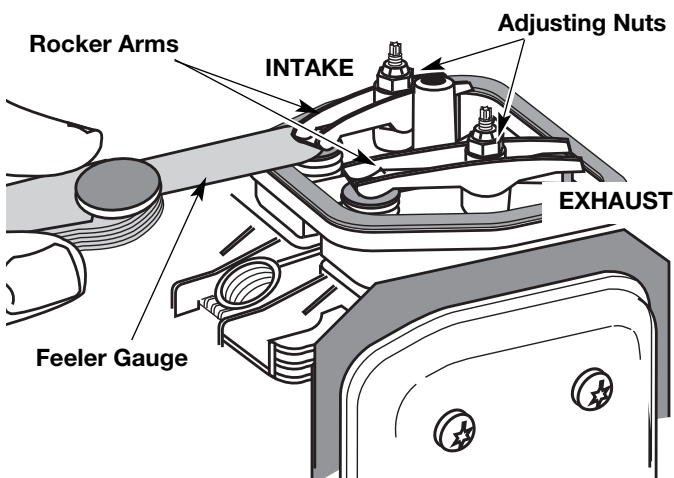

Fig. 38
8. Slide the feeler gauge between the rocker arm and the valve return spring. Measure the clearance between the valve stem and rocker arm (Fig. 38). Measure both the intake and exhaust valves.
The recommended clearance for both intake and exhaust is .003 – .006 in. (.076 – 0.152 mm). Use a standard automotive .005 in. (0.127 mm) feeler gauge. The feeler gauge should slide between the rocker arm and valve stem with a slight amount of resistance, without binding. Figure 38 and 39 show how to measure the clearance.